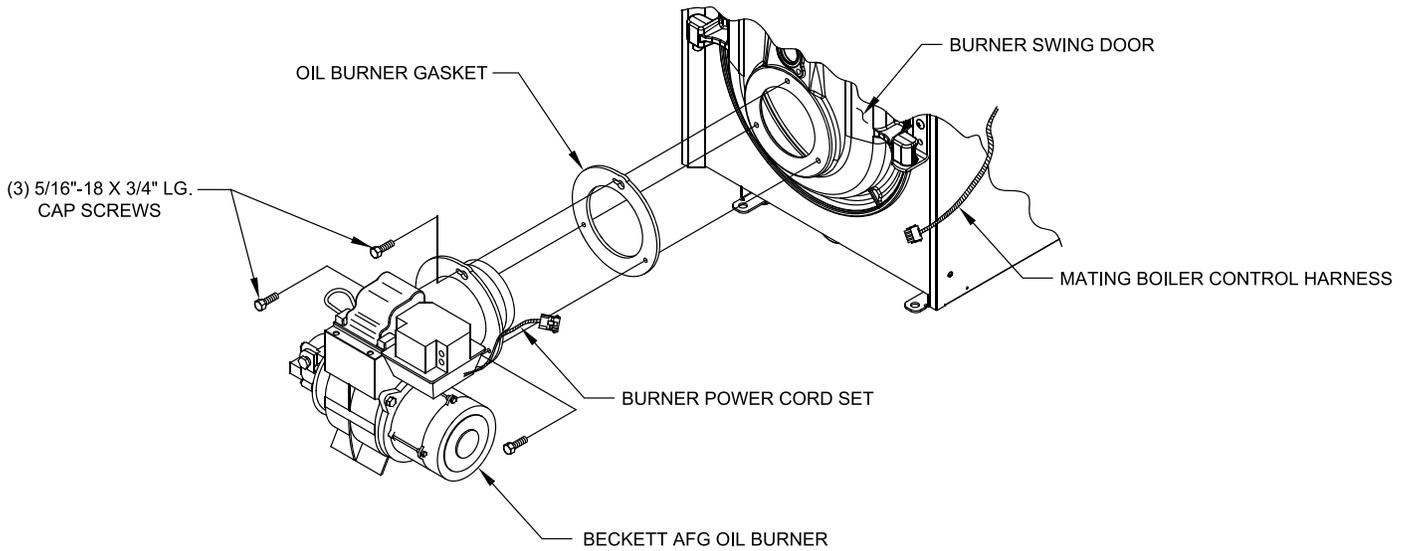

Figure 10: Oil Burner Installation (Beckett shown)
8. **Install oil burner.** (See Figure 10 and Table 4)